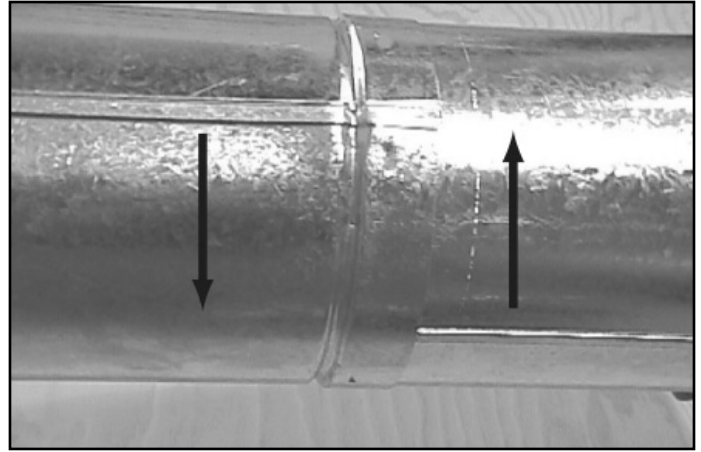
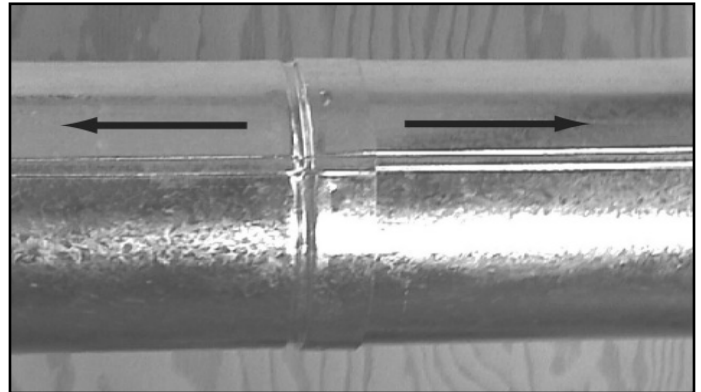

Figure 10.11 Rotate Seams for Disassembly
Figure 10.12 Align and Disassemble Vent Sections
- Rotate either section (see Figure 10.11) so the seams on both pipe sections are aligned as shown in Figure 10.12.